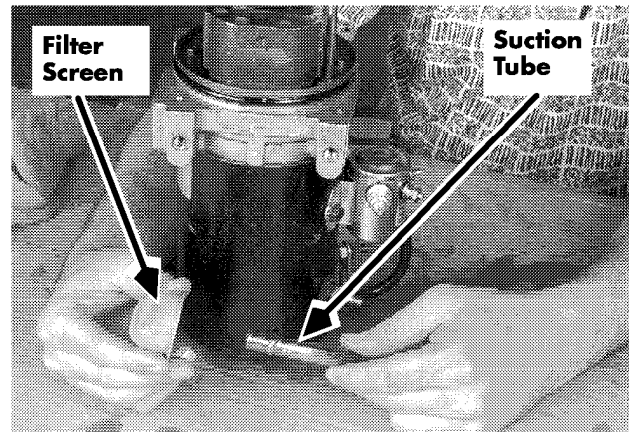

Figure 6-153: Cleaning Filter Screen
4. Clean the filter screen at the bottom of the suction tube with suitable solvent. See Figure 6-153.